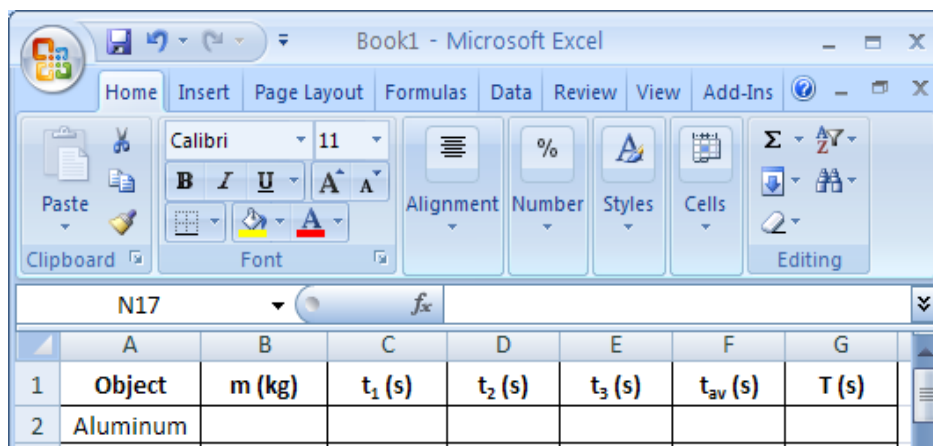

Figure 6
6. Record your data in a new Excel sheet as shown in Figure 6. To write t_1 in cell C1, first type t1 then double click on the cell, select 1, right click, choose **Format cells**, and then select **subscript** in the Format cells window. Do the same in cells D1, E1 and F1 as well.